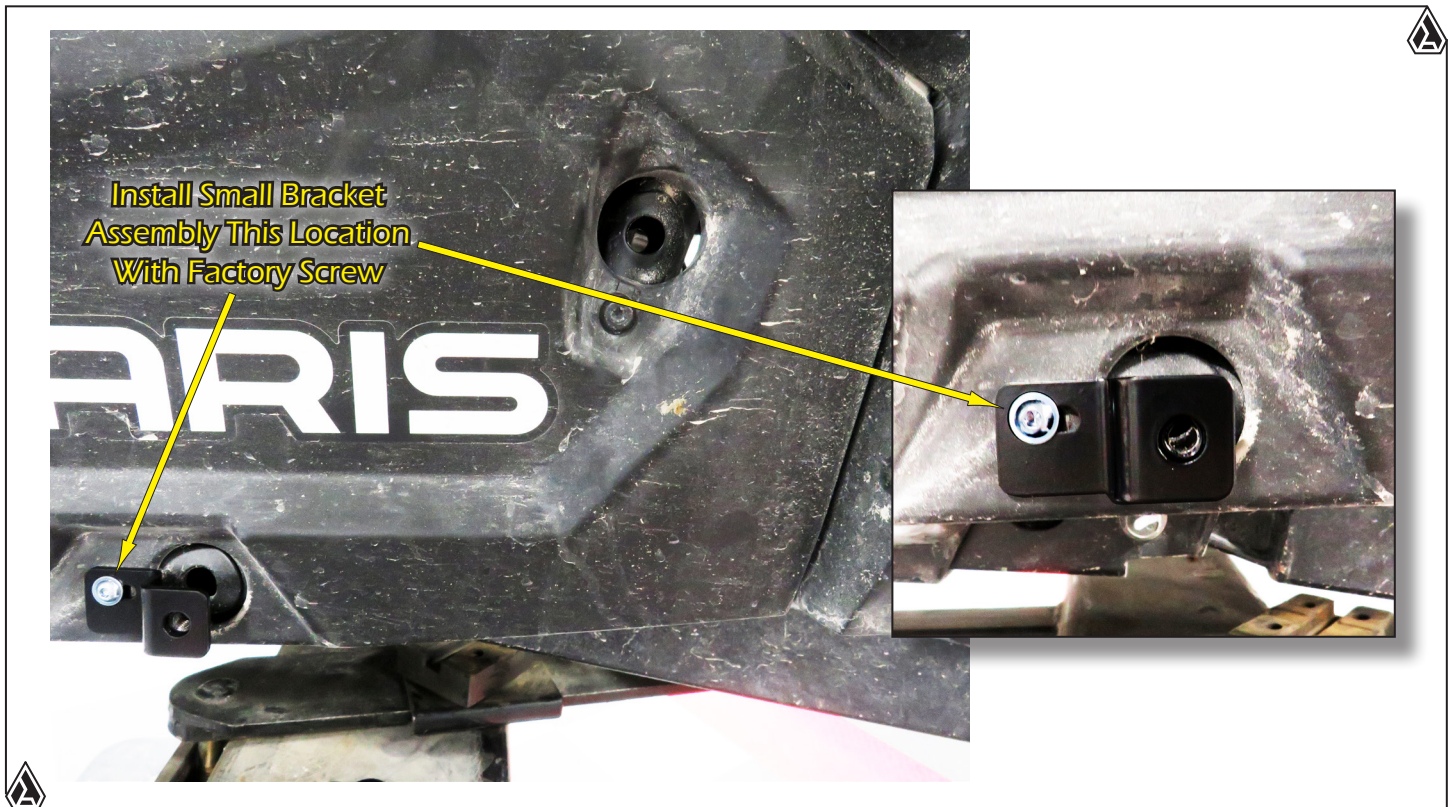

FIG.6
6. Then, install one of the **Small Bracket Assemblies** in front of the lower right hole as shown in Fig.6 using the factory screw also shown in Fig.6. Snug the screw but do not tighten as you are only wanting to lightly hold it in position so you can align the hole in the bracket with the hole in the **Skid Plate** the following steps. Install as shown in Fig.6.